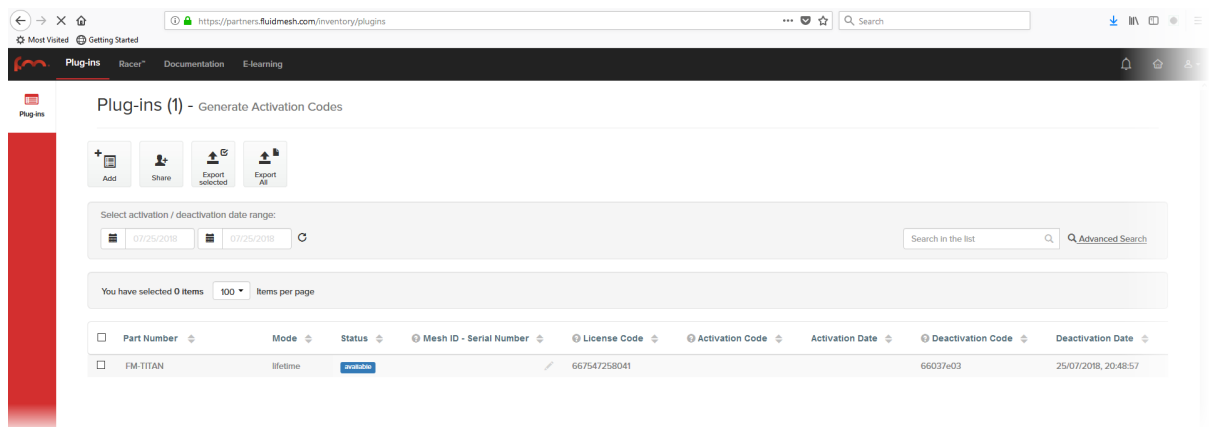

Figure 69. Partner Portal (Plug-ins web page)
- The Plug-ins web page will be shown (**Figure 69 (page 154)**).